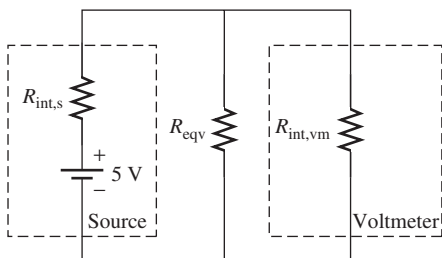

FIGURE P14.17 Using a voltmeter to check circuit voltage.
- 14.17** (A) A 5 V source (V_s) with a $5\ \Omega$ internal resistor ($R_{int,s}$) is providing power for a circuit whose equivalent resistance (R_{eqv}) is $500\ \Omega$ (shown in Figure P14.17). Assume that you use a voltmeter with a $1\ M\Omega$ internal resistor ($R_{int,vm}$) to check the voltage on the circuit. When you begin to check the voltage, how will the voltage applied on the circuit change? How much will it change? If the voltmeter's internal resistor is $500\ \Omega$, how much would the change be?